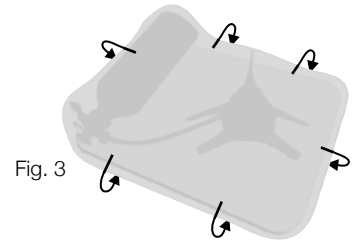

Fig. 3
7. Place the feet of your MSR stove over the bolts (Fig. 3) ensuring fuel line is oriented as in Fig. 4.
3. Insert kettle and lay shank over lid (Fig. 3)
3. Tuck all sides of the blanket under the stove board to contain flames (Fig. 3)